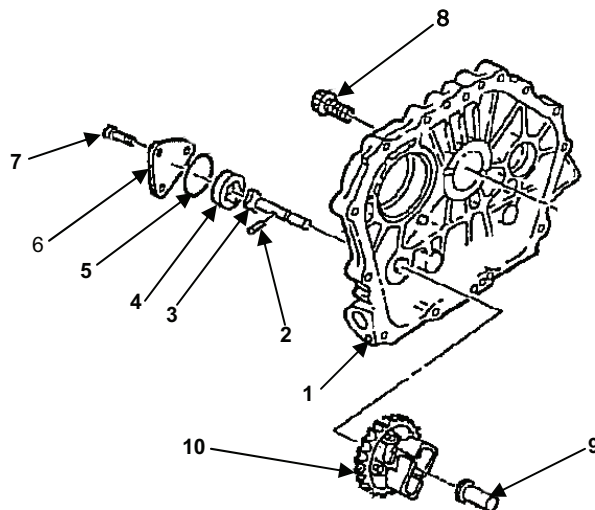

Figure 1. Oil Pump Maintenance.
1. Remove oil pump cover (Figure 1, item 6) from crankcase cover (Figure 1, item 1) by removing three (3) screws (Figure 1, item 7).
2. Remove and discard O-ring (Figure 1, item 4).
3. Remove parallel pin (Figure 1, item 2) and slide oil pump out of the crankcase cover.
4. Remove outer rotor assembly (Figure 1, item 4) from inner rotor (Figure 1, item 3).
5. Remove governor assembly (Figure 1, item 10) and pin (Figure 1, item 9).